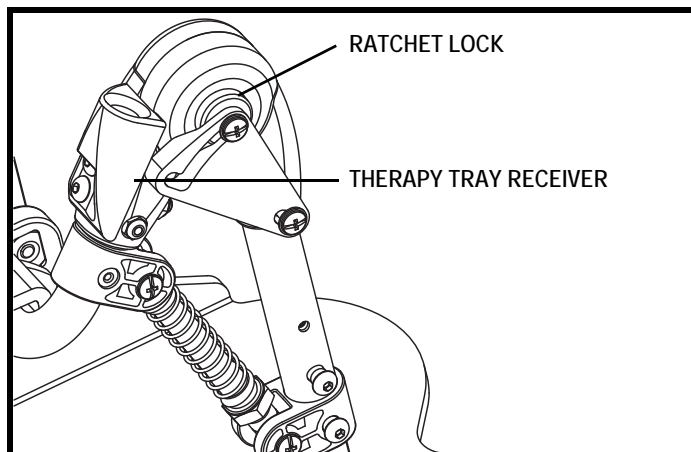

Figure 10. Kids UP Tray Receiver
1. Insert the tray posts into the tray receivers, which are located on the rear of the ratchet locks, until the tray post lock pins release and the bolts in the tray post rest against the tray receivers. **See figure 10.**